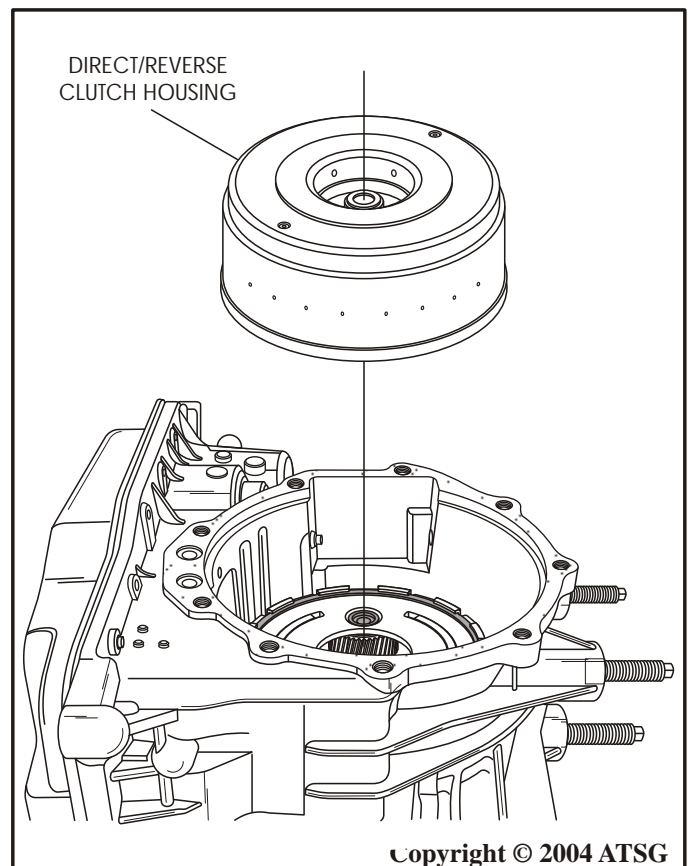

Figure 171
40. Install the pre-assembled direct/reverse clutch housing, as shown in Figure 171, by rotating into position.